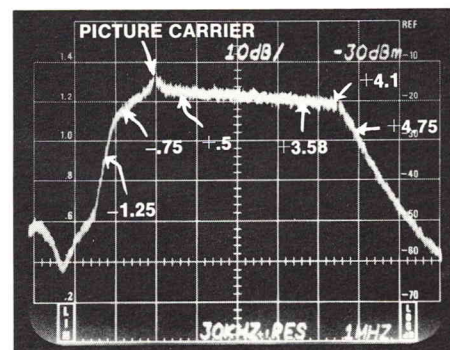

Figure 4. Sideband Response Using Noise (1 MHz/DIV).
3. Using the 300 Hz filter, tune in the visual and aural carriers of the transmitter. The results will look similar to Figure 4 and 5.
4. Care should be taken to use the internal attenuator on the 7L12, so that the analyzer is not in an overload condition. Generally, a display similar to Figure 4 or 5 is correct, whereas a raised baseline 10 MHz or more away from the picture carrier is almost a sure indication of an overload condition. (See Hints and Precautions.)
6. Critical points on the filter curve of -1.25 MHz, $-.75$ MHz, $+.5$ MHz, $+3.58$ MHz, $+4.1$ MHz and $+4.75$ MHz can be easily identified and measured in the 1 MHz/div, 10 dB/div mode on the spectrum analyzer as indicated in Figure 4.